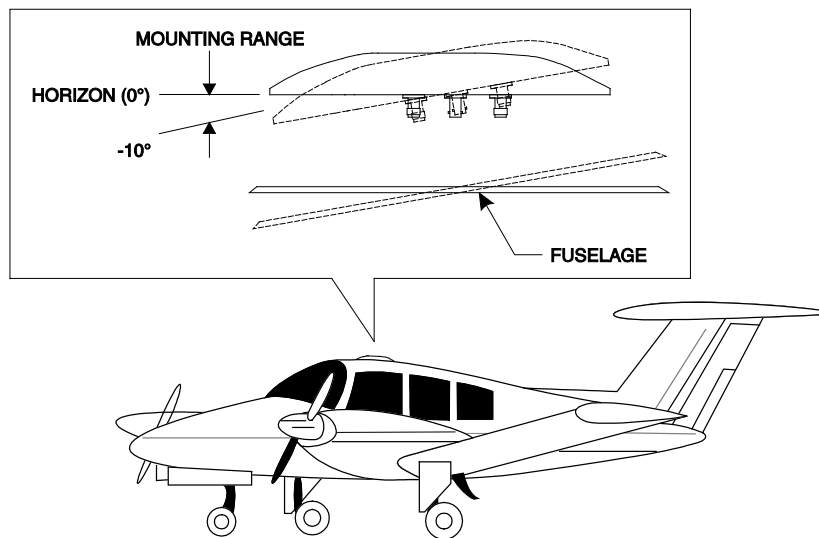

Figure 2-14: Directional Antenna Mounting Location
- The mounting site should be on the top forward fuselage, as close to the centerline as possible, and within -10° of the in-flight horizon (see Figure 2-14).